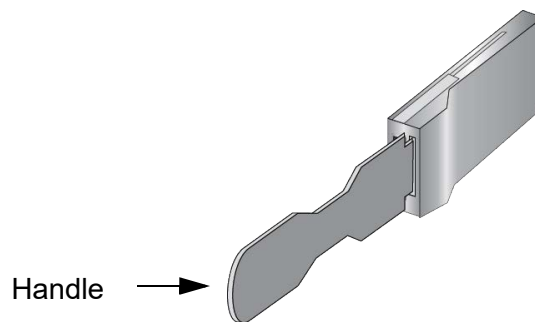

Figure 130. Handle on 100G Transceivers for XEM2-1CQ Line Cards
- ❑ 100G transceivers for XEM2-1CQ Line Cards have handles. Use the handles when installing or removing transceivers. An example is shown in Figure 130.